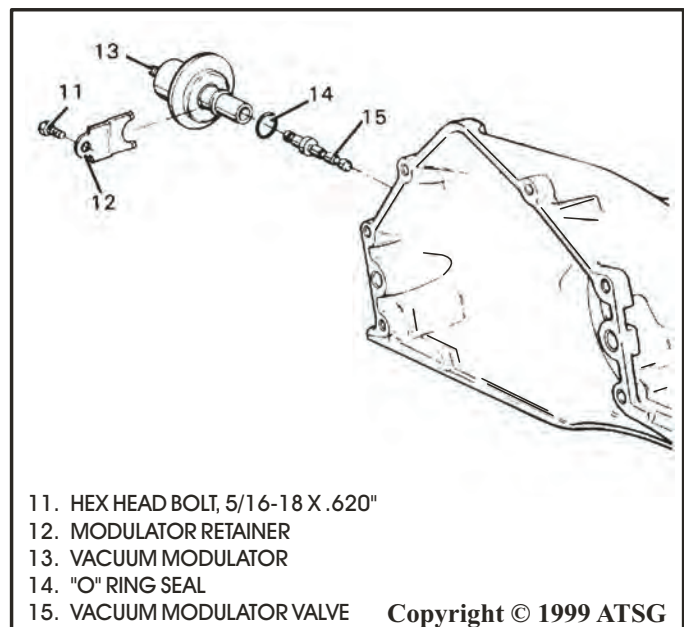

Figure 36
3. Remove modulator bracket retaining bolt and modulator bracket as shown in Figure 36.
4. Remove the vacuum modulator and modulator valve from case, as shown in Figure 36.